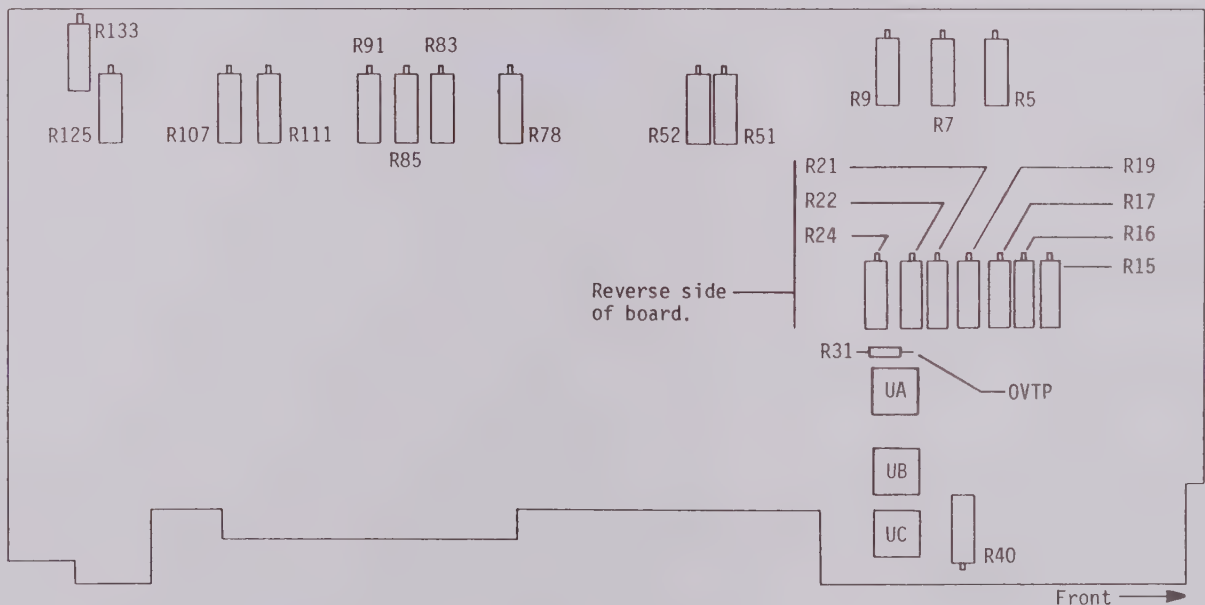

Figure 5
2. Slowly adjust trimpot R133 (Figure 5) until a separation appears on the waveform.
2. Slowly adjust trimpot R125 (Figure 5) until a separation appears on the waveform.
8. Connect multimeter to 0VTP. (See Figure 5)
- b. Adjust trimpot R21 (Figure 5) until the trace is aligned with the horizontal marker line.
- b. Adjust trimpot R40 (Figure 5) until the trace is aligned with the horizontal marker line.
11. Adjust trimpot R24 (Figure 5) for the best straight line.